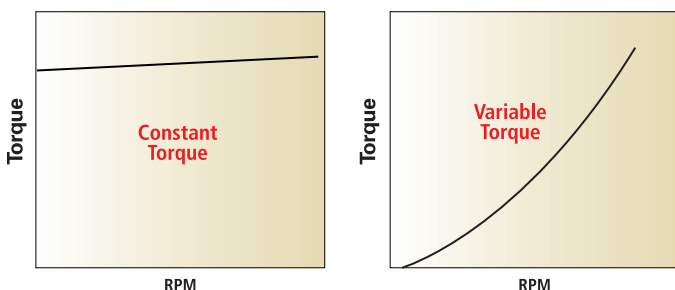

Figure 3. VT (left) & CT load profiles
Process loads are divided into two general types: Variable Torque (VT) and Constant Torque (CT). These refer to how the required motor and drive torque relate to motor RPM. The two simple graphs in Figure 3 below illustrate a typical VT load on the left and a CT load on the right. A VT load is typical of a pump or fan. Constant torque loads are of many varieties and include conveyors, grinders, crushers, piston pumps and others. Typically, VFD suppliers will provide 10% additional overload capacity above full torque and ampere rating for VT loads, and 50% additional capacity for CT loads, limited to a time of 60 seconds.